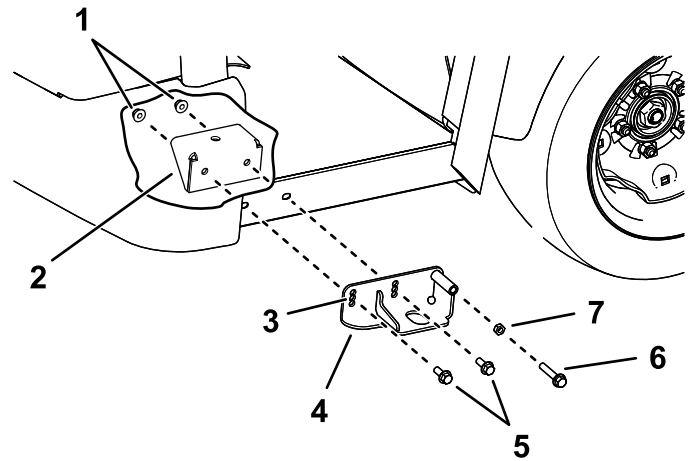

Figure 26
3. Install the left mount assembly and right mount assembly to the front cab mount brackets using 2 hex-flange head bolts (3/8 x 1 inch) and 2 flange nuts (3/8 inch) on each side (Figure 26).
4. Install the adjuster bolt (3/8 x 2 inches) and hex nut (3/8 inch) into the left mount assembly and right mount assembly on each side of the machine (Figure 26).
Use the adjuster bolt (Figure 26) to center the cab.